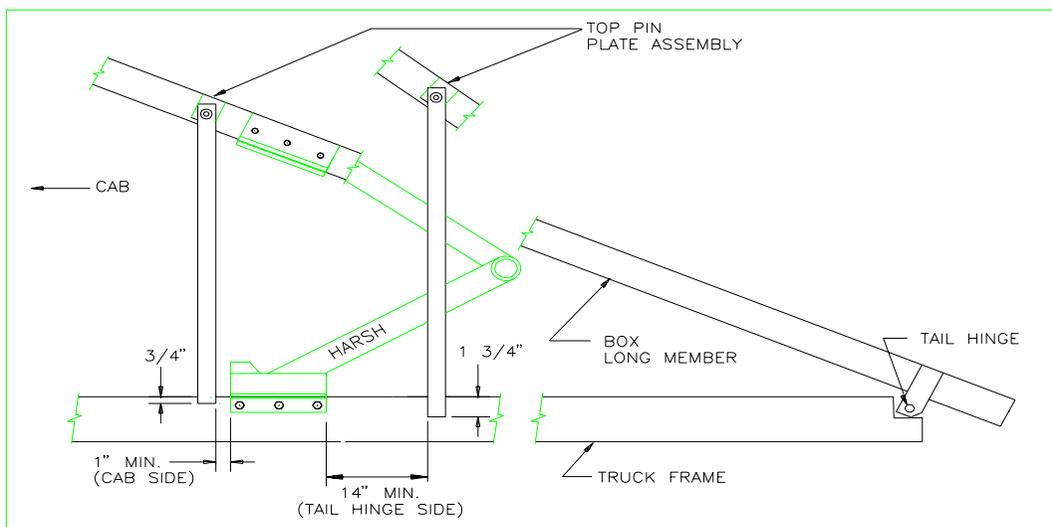

Figure 17: Safety Prop Dimensions
1. Raise the empty box, and brace up box. The Top Pin Plate Assembly should be clamped to the box long members. (The plate assembly should be flush with the top of the box long member). Hang the Safety Prop on the pin and with the Prop hanging straight down, hold the dimensions as shown in Figure 17.